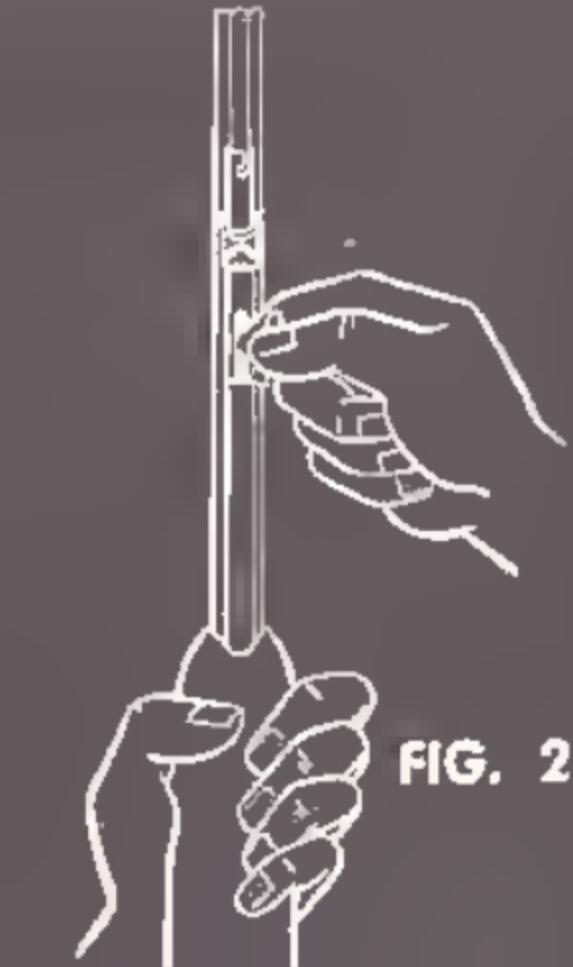

FIG. 2
**TO LOAD MAGAZINE:** With safety on, turn knurled knob on inner magazine tube, pull tube out and insert cartridges into cartridge opening, continuing the operation until last cartridge is visible (See figure 2). Grasping knurled portion of inside magazine tube, press down with rotating action until magazine tube is fully down and located in supporting notch.